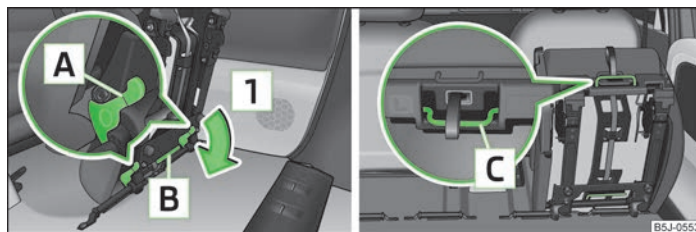

Fig. 41 Unlocking the folded forward seat/carrying handles on the seat cushion
- Unlock the folded forward seat by pressing the seat locks **A** » Fig. 41 in direction of arrow **1**.
- Fold the outer seat forward » page 49, *Folding the seat backrest forwards and folding the seat fully forwards* and unlock » Fig. 41 on page 50.